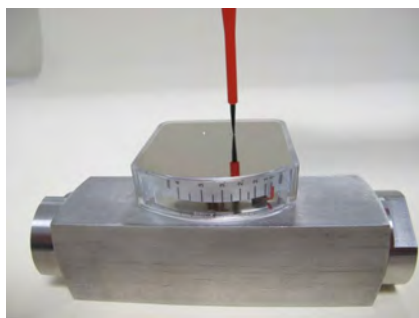

Fig. 39
3. ➔ Press out the display cover plate from the plastic housing (Fig. 39)